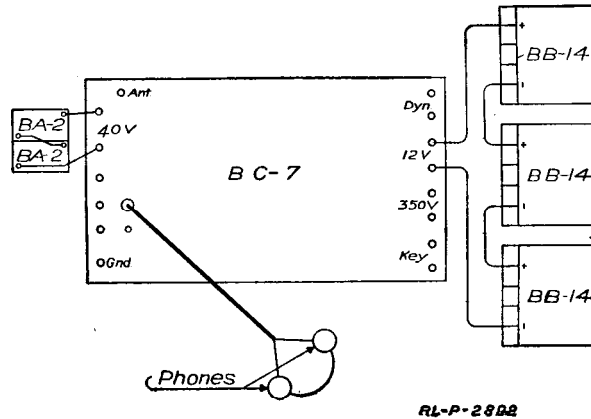

Fig. 91.—Cording diagram of receiver connections in the SCR-130 set.
6. *To connect up the receiver side of the set.*—After having made all of the connections given under connecting up the transmitter side of the set, the following additional connections will be needed in order that the receiving side of the set be ready for operation. (See Fig. 91.)